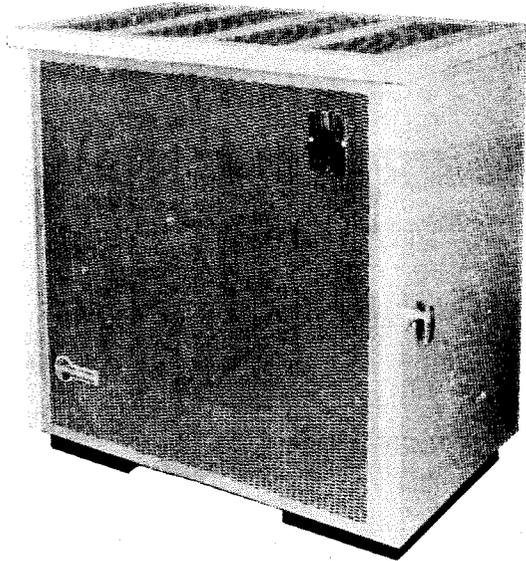

Fig. 32. Combustioneer 65 automatic circulating heater.
15. **Will-Burt Co.** (manufacturer), 202 S. Main St., Orrville, OH 44667; Lehman Hardware & Appliances, Inc. (dealer), Box 41, Kidron, OH 44636. See Fig. 32 and Table 3 for Combustioneer wood/coal heater details.